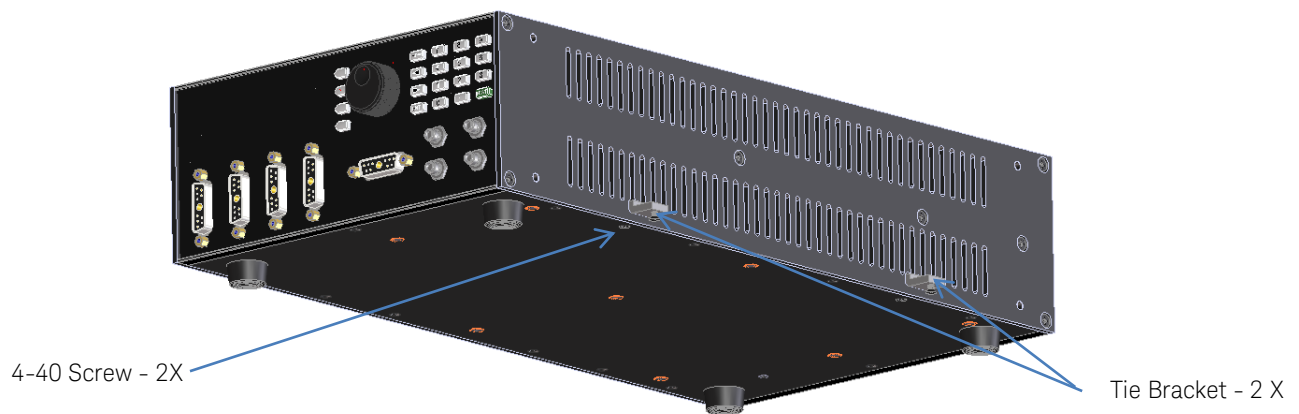

Figure 5: Install tie brackets to instrument 1
3. Install the two tie brackets into instrument 1 as shown in Figure 5.